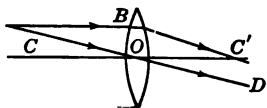

FIG. 313. — Terms defined.
341. Definition of Terms. In most lenses there are two centers of curvature, CC' , Fig. 313. The principal axis joins them. In lenses the secondary axes pass through the optical center of the lens; the optical center O practically coincides with the geo-
342. Images Formed by Lenses. Convex lenses form images in almost the same manner as concave mirrors; concave lenses are analogous to convex mirrors in the manner in which they form images. The student must keep in mind several differences between lenses and mirrors: (1) Secondary axes of lenses pass through the optical center and not through the center of curvature. In Fig. 313 the line AD is a secondary axis. (2) The principal focus is at or near the center of curvature; the focal length is practically equal to the radius, whereas in mirrors it is equal to half the radius. (3) Since the image is formed by rays of light that pass through the lens, a real image is formed on the opposite side of the lens from the object, just the reverse from mirrors. Virtual images formed by lenses appear to be on the same side of the lens as the object. In constructing images formed by lenses, we draw two lines from each point just as we did in the case of mirrors. One of these lines may be the secondary axis; the other a ray parallel to the principal axis which passes through the principal focus after it is refracted by the lens. The image of A in Fig. 313 will be formed beyond the lens where the ray AB , refracted along the line BC' , meets the secondary axis AD .